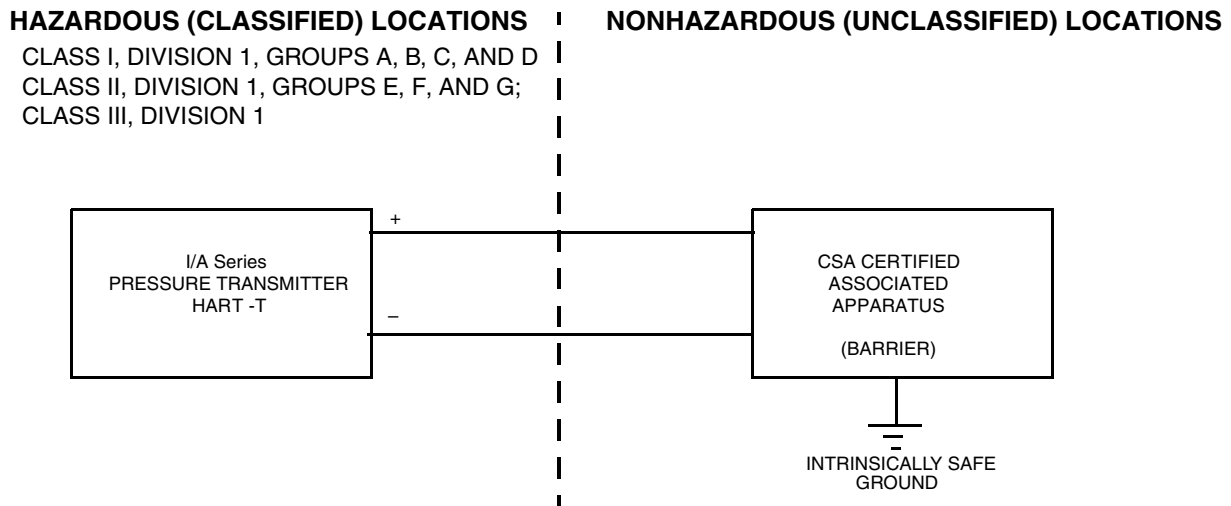

Figure 5. Divisions Loop Diagram for HART Transmitters with CSA Certified Zener Barrier
- Figure 5 and/or Table 2 must **not** be modified without prior CSA approval.